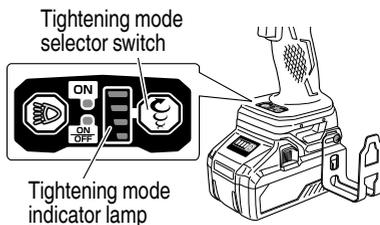

Fig. 20
10. Tightening mode selector function (Fig. 20)